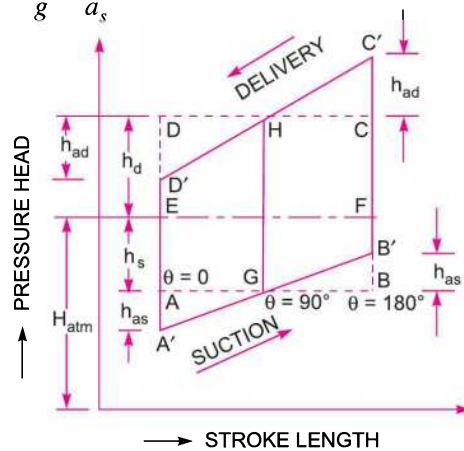

Fig. 20.5 Effect of acceleration on indicator diagram.
From Fig. 20.5, it is now clear that due to acceleration in suction and delivery pipe, the indicator diagram has changed from  $ABCD$  to  $A'B'C'D'$ . But the area of indicator diagram  $ABCD = \text{Area } A'B'C'D'$ . Now from equation (20.21), work done by pump is proportional to the area of indicator diagram. Hence the work done by the pump on the water remains same.
(iii) Pressure head in the cylinder at the beginning of the suction stroke (Refer to Fig. 20.5)
- (ii) From Fig. 20.5, the pressure head in the cylinder at the beginning of the delivery stroke
From the indicator diagram, drawn in Fig. 20.5, it is clear that the absolute pressure head during suction stroke is minimum at the beginning of the stroke. Thus, the separation can take place at the beginning of the stroke only. In that case the pressure head in the cylinder at the beginning of stroke becomes =  $h_{sep}$ .